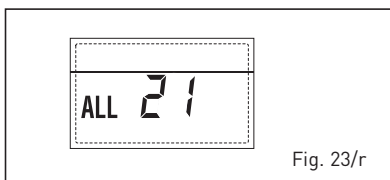

Fig. 23/r
- **SAFETY THERMOSTAT INTERVENTION SECOND MIXED ZONE "ALL 22" (fig. 23/s)**